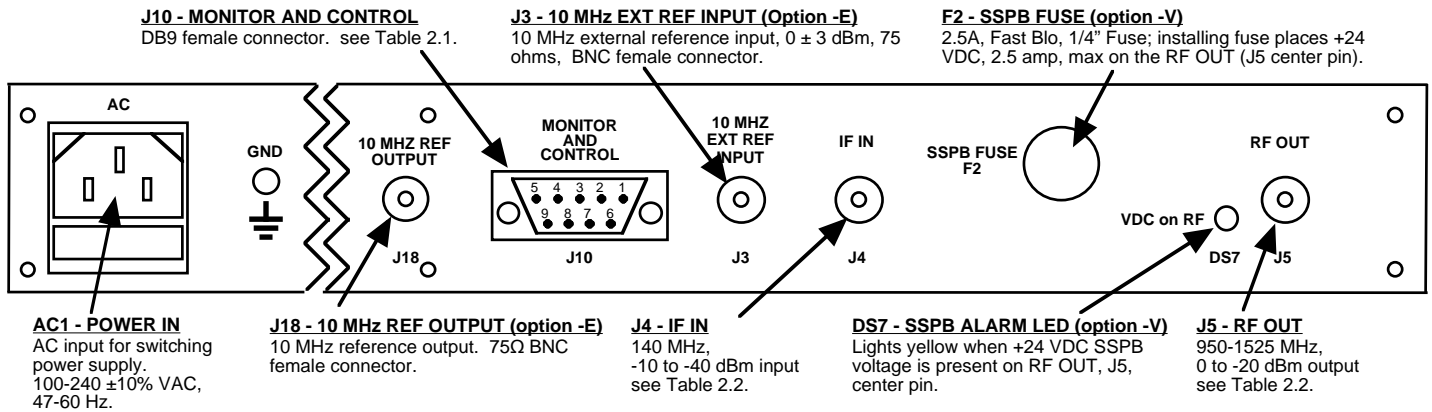

FIGURE 2.1 2015-05 Rear Panel I/O's
2.2 Rear Panel Input/Output Signals - Figure 2.1 shows the input and output connectors on the rear panel.
1. Connect a -10 dBm to -40 dBm signal to IF IN, J4 (Figure 2.1).